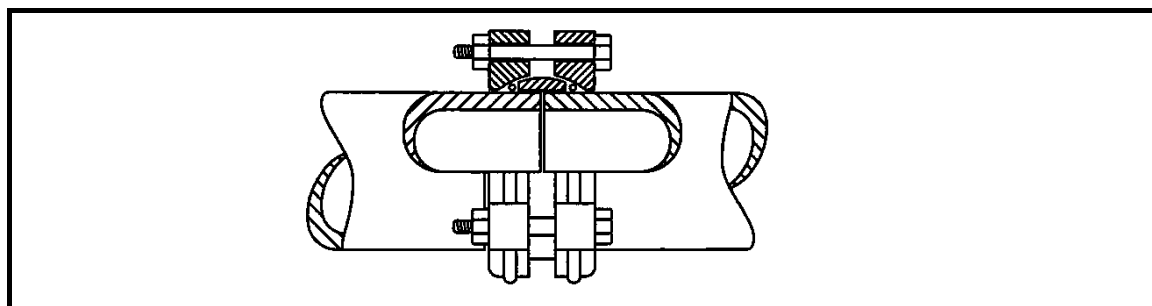

FIGURE 4.6
- 4.6 Answer the following questions with regard to the pipe coupling in FIGURE 4.6.
- 4.6.1 What is the coupling in FIGURE 4.6 called? (1)